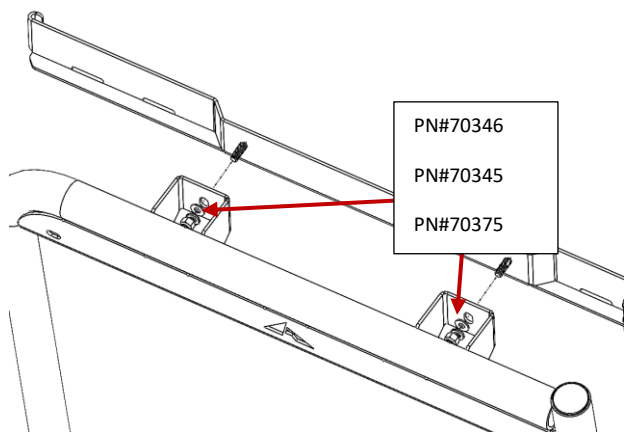

Figure 4: Tension Bar Installed on Base Unit
12. Bolt tension bar to base unit to the studs using two (2) 5/16" Washers [PN 70345], two (2) 5/16" Nuts [PN 70346], and two (2) 5/16" split washer [PN 70375] as shown (Figure 4).